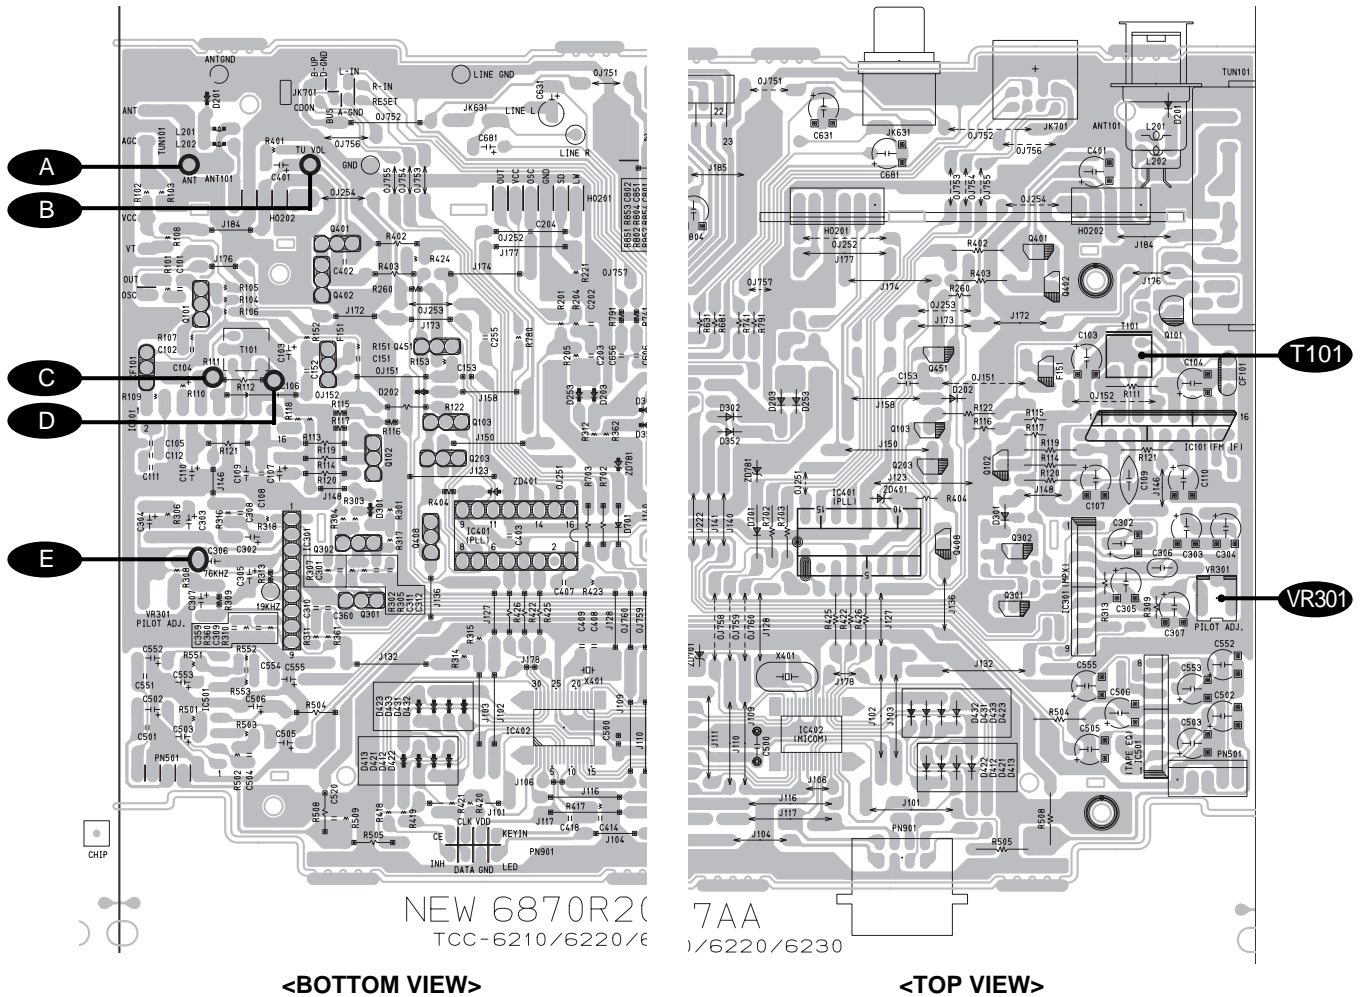

Figure 1. MAIN PCB Board
5. Refer to figure 1~2 for Adjustment Points.
- 3. Refer to figure 1~2 for Adjustment Points.